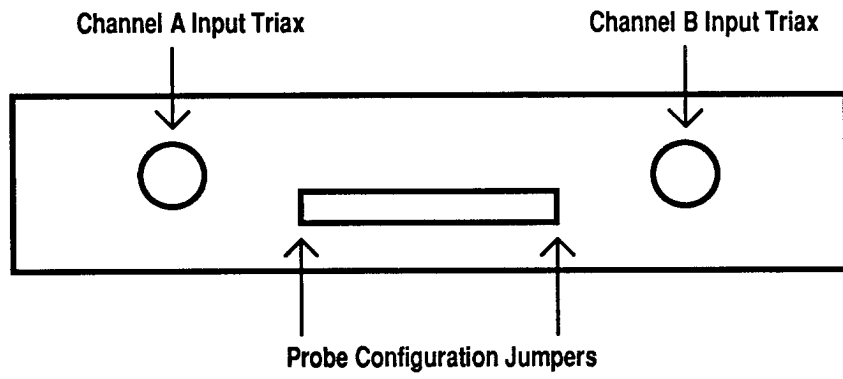

Figure 1-8: Probe Adapter Front Panel
6. Connect the twiax cables from the probe adapter to the 1553 bus(es) to be monitored. When a single 1553 bus is monitored use the probe adapter connector labeled Channel A. When a dual redundant 1553 bus is monitored use both the Channel A and Channel B connectors. Figure 1-8 shows the front panel of the probe adapter.